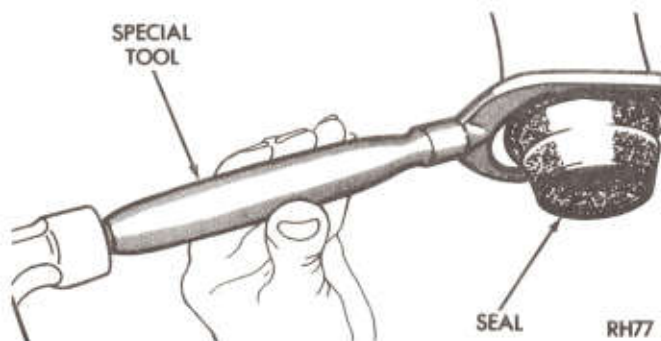

Fig. 5—Remove Extension Seal
(2) Remove oil seal with Tool C-3985 (Fig. 5).
(1) Remove oil seal with Tool C-3985 (Fig. 5).